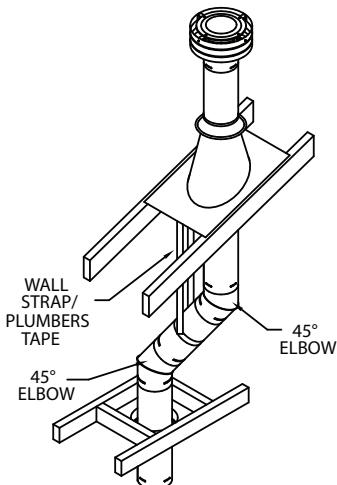
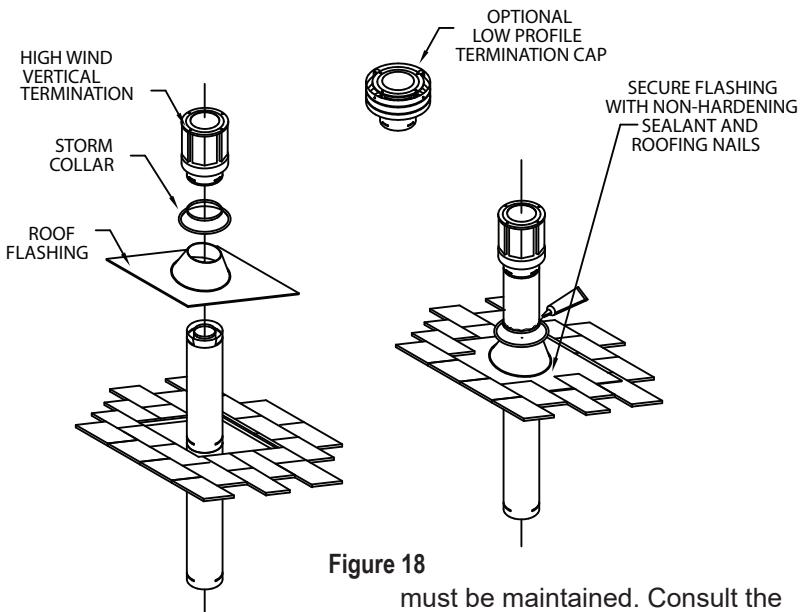

Figure 16
Figure 18
(2) If an offset is necessary in the attic to avoid obstructions, it is important to support the vent pipe in order to avoid excessive stress on the Elbows. Wall Straps or plumbers tape may be used for this purpose (*Fig. 16*).
(3) Wherever possible, use 45° Elbows instead of 90° Elbows. The 45° Elbow offers less restriction to the flow of flue gases and intake air.
Step 7. Slip the Roof Flashing over the Pipe Section(s) protruding through the roof. Use a non-hardening sealant between the Roof Flashing and the roofing to prevent water leakage. Secure the base of the Roof Flashing to the roof with roofing nails. Ensure the roofing material overlaps the top edge of the Roof Flashing (*Fig. 18*).
Step 9. Slip the Storm Collar over the Pipe Section, and push it down to the top of the Roof Flashing (**Fig. 18**). Use non-hardening sealant between the Storm Collar and the Pipe Section.